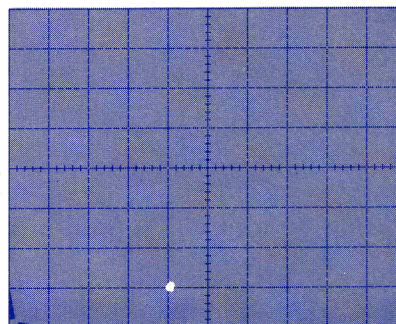

Figure 5-1. Display of pinch-off voltage V_p .
- 4) Apply power to device— Position LEFT-RIGHT switch on 177 to appropriate side. Increase VARIABLE COLLECTOR % until specified voltage is reached on horizontal [4 divs, or 20 V]. See Figure 5-1. 34 8